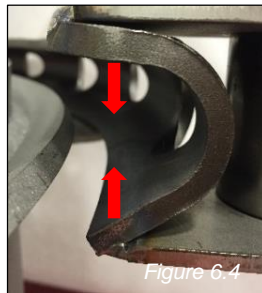

Figure 6.4
3. **Wide Strap Opening** – If the “C” opening of the strap has , it can be closed to the appropriate gap by using standard tools. Do not apply heat to the strap section to accomplish. The maximum allowable distortion is 1/4”. (Figure 6.4) Top lip must remain flat.